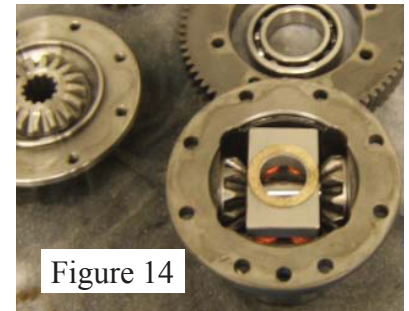

Figure 14
18. Slide the spider gear pin back through the differential case, through the spider gears & thrust washers and above the TCS case half. Insert the roll pin from the inside, to lock the spider gear pin into place. See figure 14.